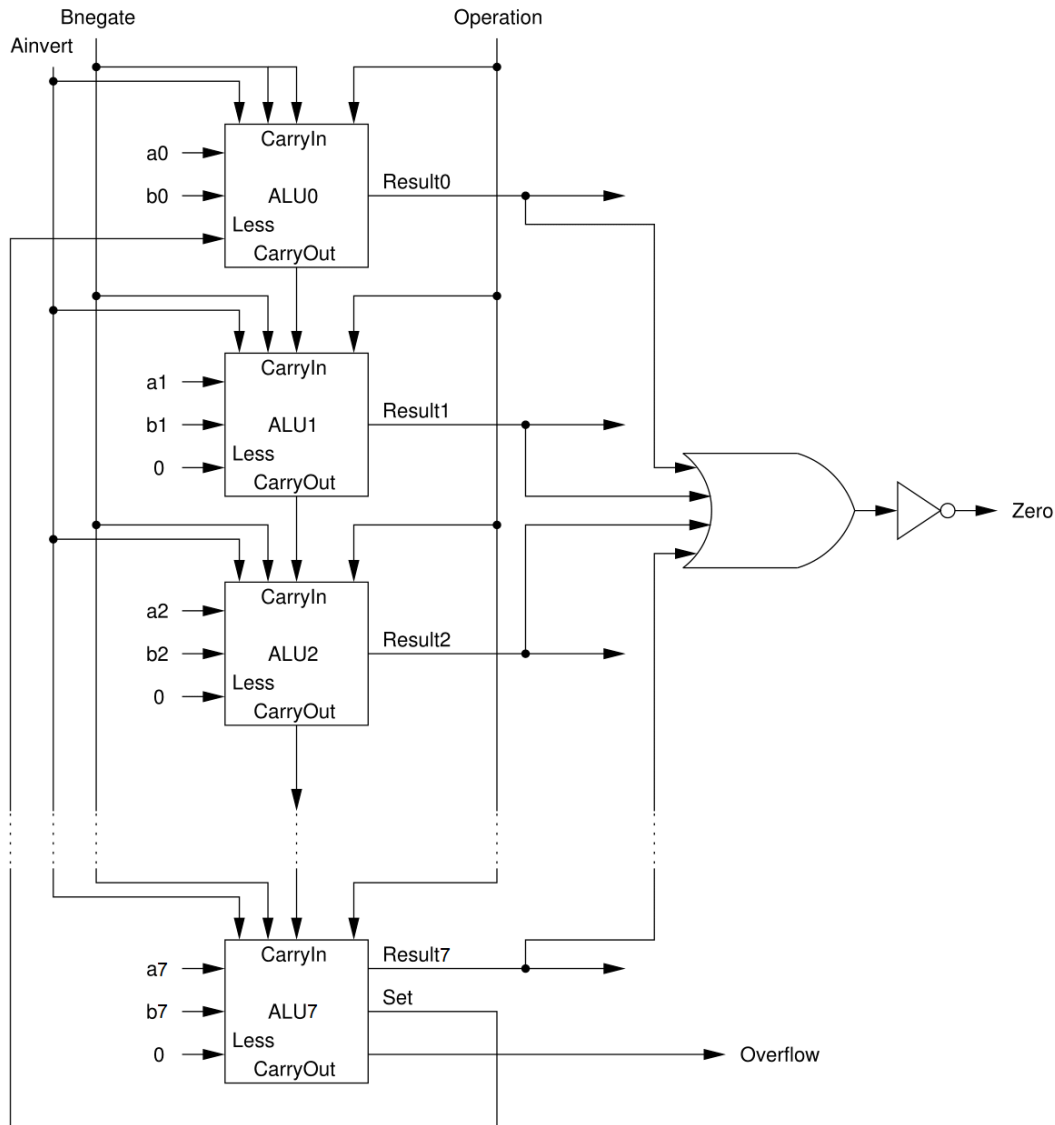

Figure 2. A full eight-bit ALU with Zero signal and `slt` support.
A one-bit ALU is nice, but it isn't very useful for computation by itself. We can chain one together with its likeminded friends to get some real work done! In Figure 2, we chain together eight one-bit ALUs to form an eight-bit ALU:
- Only the *Set* signal from the MSB is tied to the *Less* input of the LSB, as shown in Figure 2. All other *Set* signals are **ignored** (they are not shown here), and all other *Less* signals are **wired to a constant 0**. (You can find constants under the "Wiring" library.)